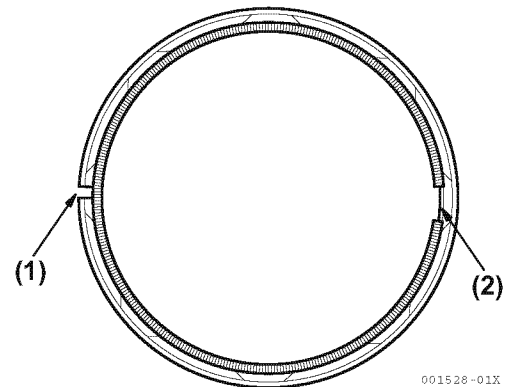

Figure 5-93
- The oil control ring includes a coil expander. The coil expander joint should be opposite (180°) the oil ring gap (**Figure 5-93**).